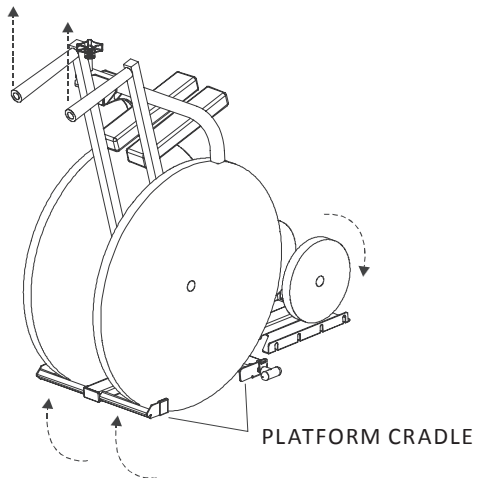

Figure 4-10
6. Once the larger wheels are seated in the platform cradle, pull up on the wheelchair handles. Once level, the platform will automatically latch into place. **See Figure 4-10.**